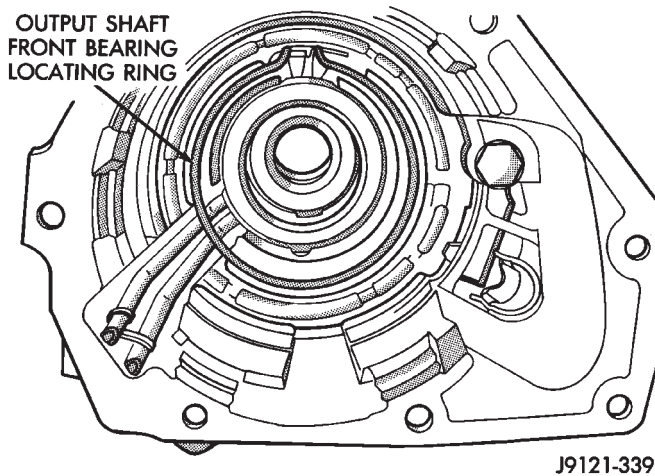

Fig. 65 Front Bearing Locating Ring Installation
(17) Install output shaft front bearing locating ring in case (Fig. 65).